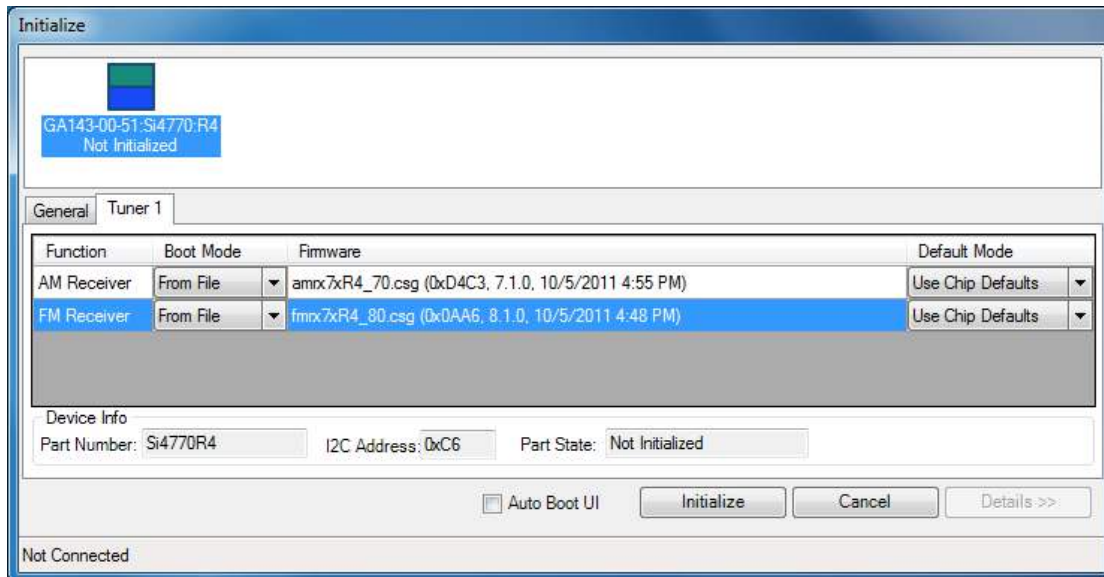

Figure 9. Firmware Configuration Window
Additional options are available in the Firmware Configuration window, shown in Figure 9. “Firmware Configuration Window”.
- f. **Firmware selection:** The firmware for the tuner (or tuners in multi-tuner configurations) may be selected by selecting the appropriate Tuner tab as shown in Figure 9. “Firmware Configuration Window”. In particular,